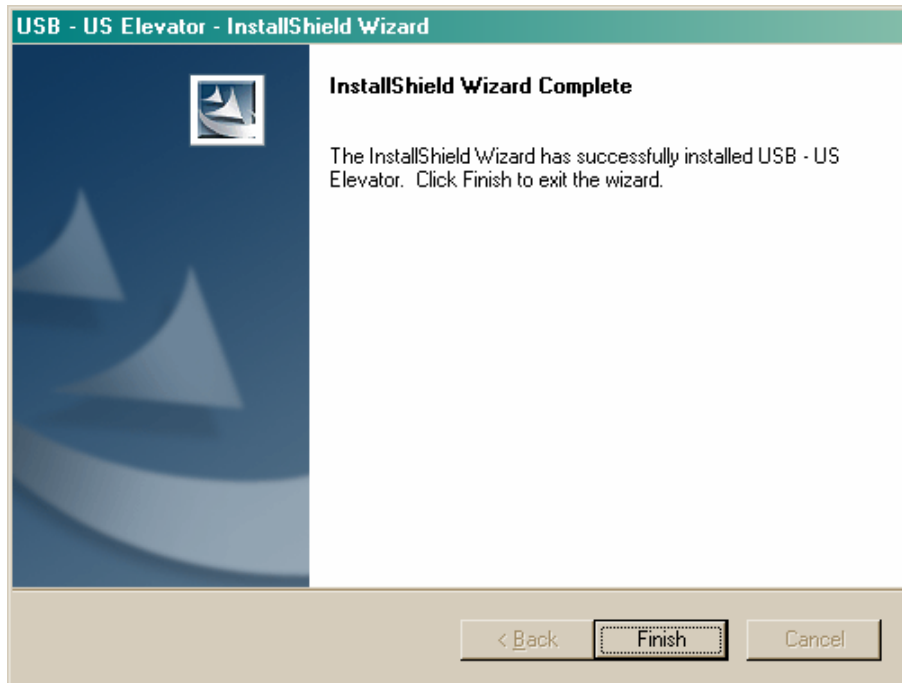

Figure 11
7. After a brief delay another window will appear (Figure 11) informing the user that the FREEDOMWare installation is complete and instructs the user to once again select the Finish pushbutton to complete the FREEDOMWare installation.